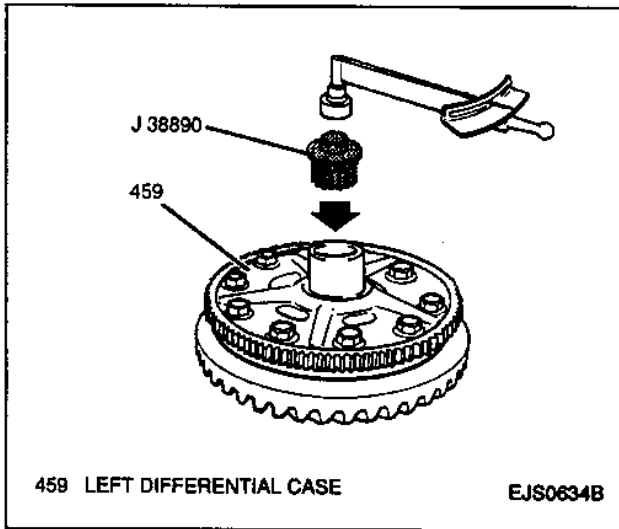

Figure 63—Measuring Side Gear Preload
2. Side gear preload using a J 38890. Insert the J 38890 into either side bearing and with a torque wrench, measure the side bearing preload (Figure 63). Maximum side gear preload should be 2.4 N·m (21lb. in.). If preload exceeds specification, inspect side and differential pinion gears for foreign material or damage.